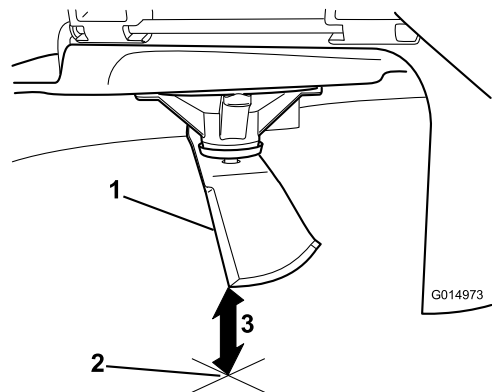

Figure 89
5. Measure from the tip of the blade to the flat surface (Figure 89).